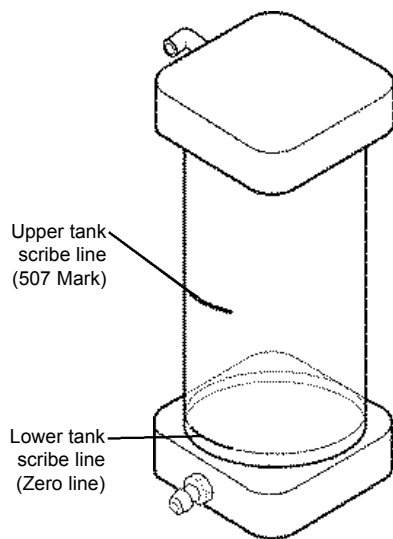

Figure 2.0.3
7. Using the "INCR" switch (S2) and the "DECR" switch (S1) adjust the liquid level in the tank to the 507 reference line (upper tank scribble) (Figure 2.0.3).
22. Verify that the liquid level in the tank is at the 507 reference line (upper tank scribe line) Figure 2.0.3.